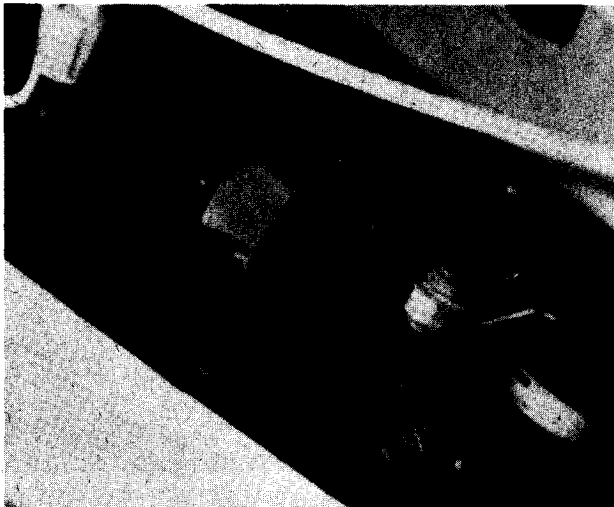

FIGURE 4
11. Using a machine screw, lock washer and nut; mount the regulator. It is desirable to mount the regulator on a slight angle in order to facilitate future adjustments on the regulator if required (Figure 4).